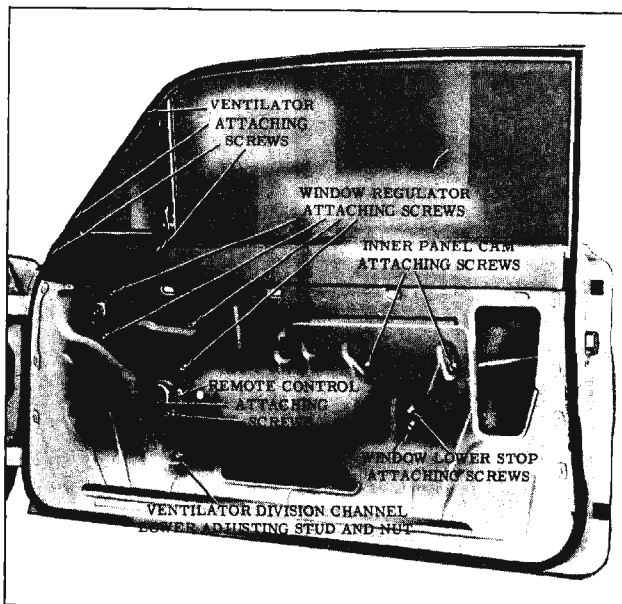

Fig. 16-248 Front Door Hardware
3. Remove screws securing remote control assembly to door inner panel. Pull remote control away from door inner panel; then rotate remote control assembly one quarter turn to disengage connecting link from remote control assembly. Remove remote control assembly and connecting link from door. (Fig. 16-248)
4. Carefully lower door window to extreme down position. Remove door window frame to ventilator attaching screws and one inner panel to ventilator attaching screw. (Fig. 16-248)
or fore or aft, remove door trim assembly and detach inner panel water deflector sufficiently to loosen division channel lower adjusting stud nut. Adjust stud in or out as required or position channel fore or aft as required; then tighten stud nut. Seal water deflector and install door trim and inside hardware. (Fig. 16-248)
2. Remove two inner panel cam attaching bolts. (Fig. 16-248)
5. Remove window regulator attaching screws and work window regulator rearward to disengage arm from window lower sash channel cam and remove regulator from door. (Fig. 16-248)